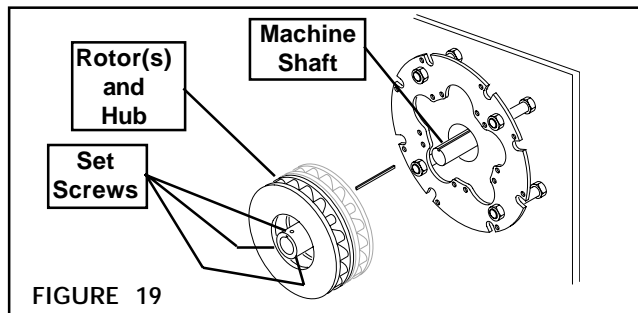

FIGURE 19
10. Place the Caliper Cap on the Caliper Assembly (See Figure 19).